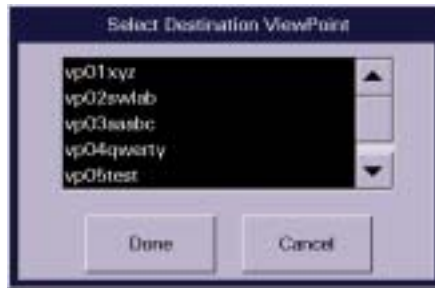

FIGURE 5-11 Select Destination Panorama List Box
5. Select the **Central To Central Without Device** button. The **Select Destination Panorama** list box (FIGURE 5-11) is displayed.
- The **Transfer** button displays the Select Destination Panorama list box (FIGURE 5-11) displays. Go to step 6 on page 5-17 and continue the transfer process. When a Destination Panorama is selected, the patient information is removed from the Failed Transfer List.